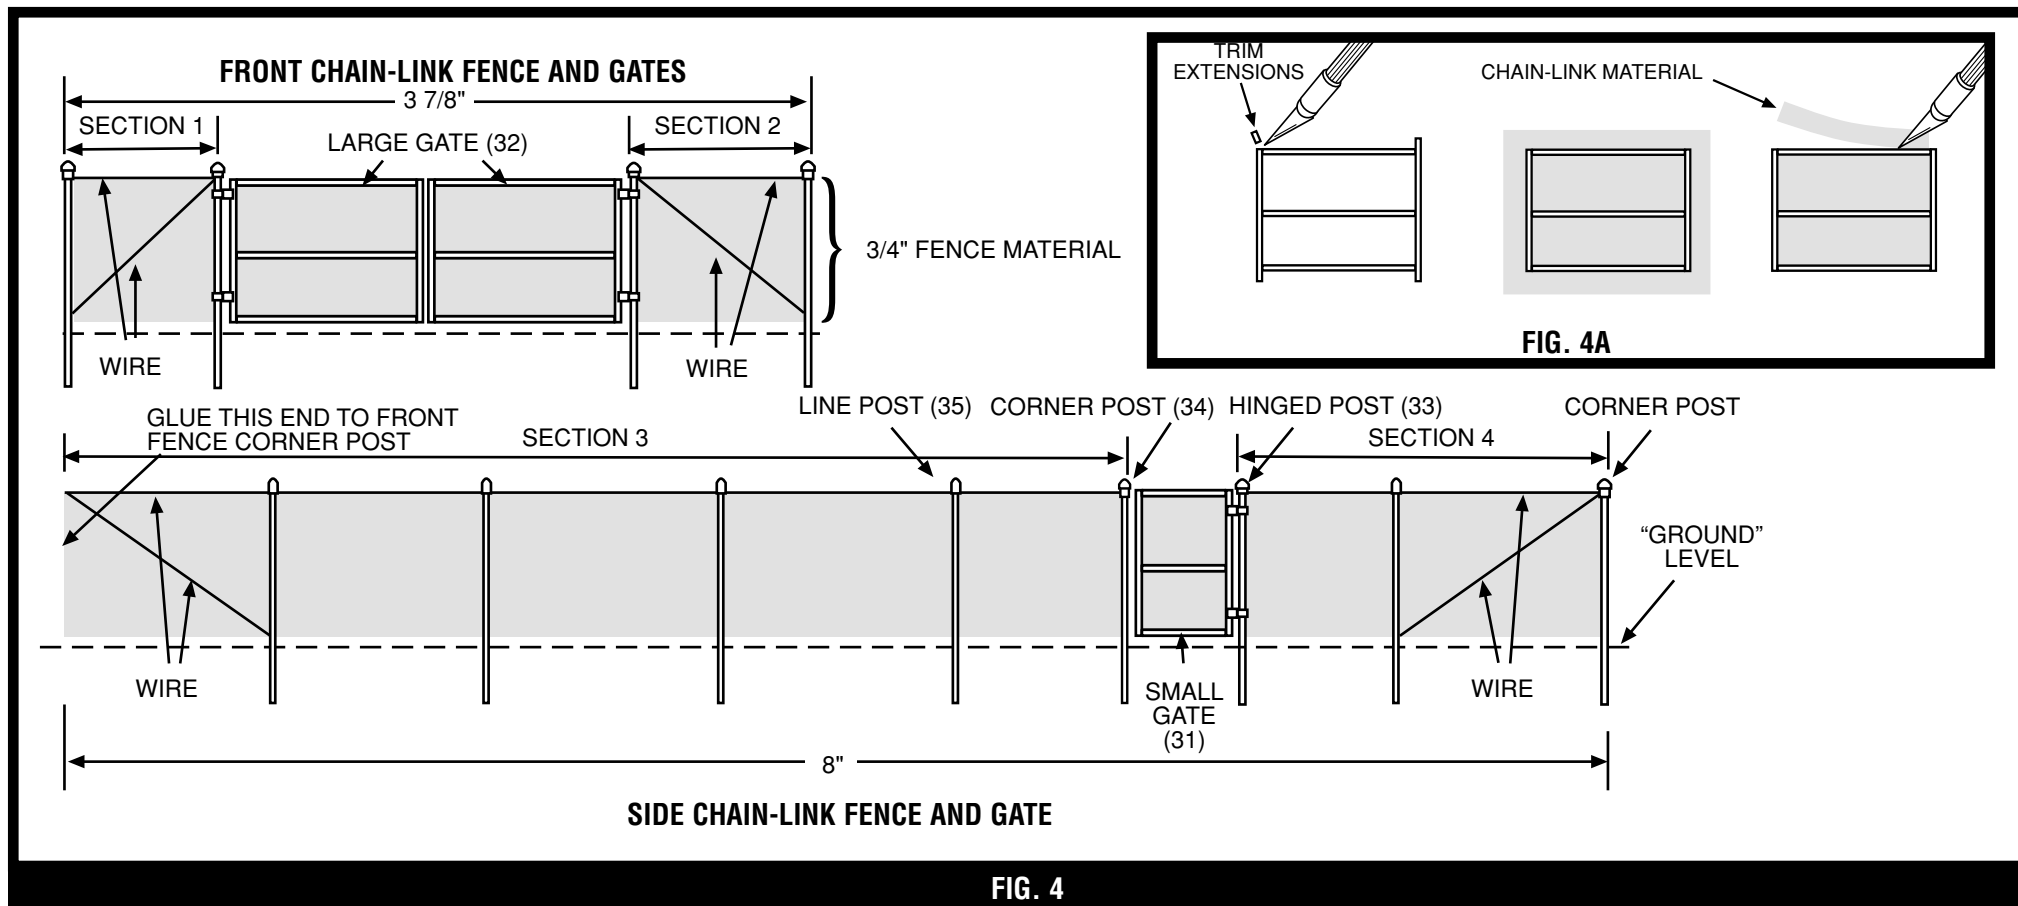

FIG. 4
1. Tape supplied wax paper over fence drawing in Fig. 4 so that glued parts don't stick to instructions.
2. Cut wires to section lengths (1,2,3 & 4) designated in Fig. 4. If wire needs straightening, pull gently between two pliers.
4. Use a sharp hobby knife and straight-edge to get a straight side on chain-link fence material. Cut material slightly oversize. Apply glue to wire and posts. Align the straight side of the material to top wire of fence, place second piece of wax paper over assembly and hold until glue dries. Trim sides and bottoms as shown in Fig. 4.